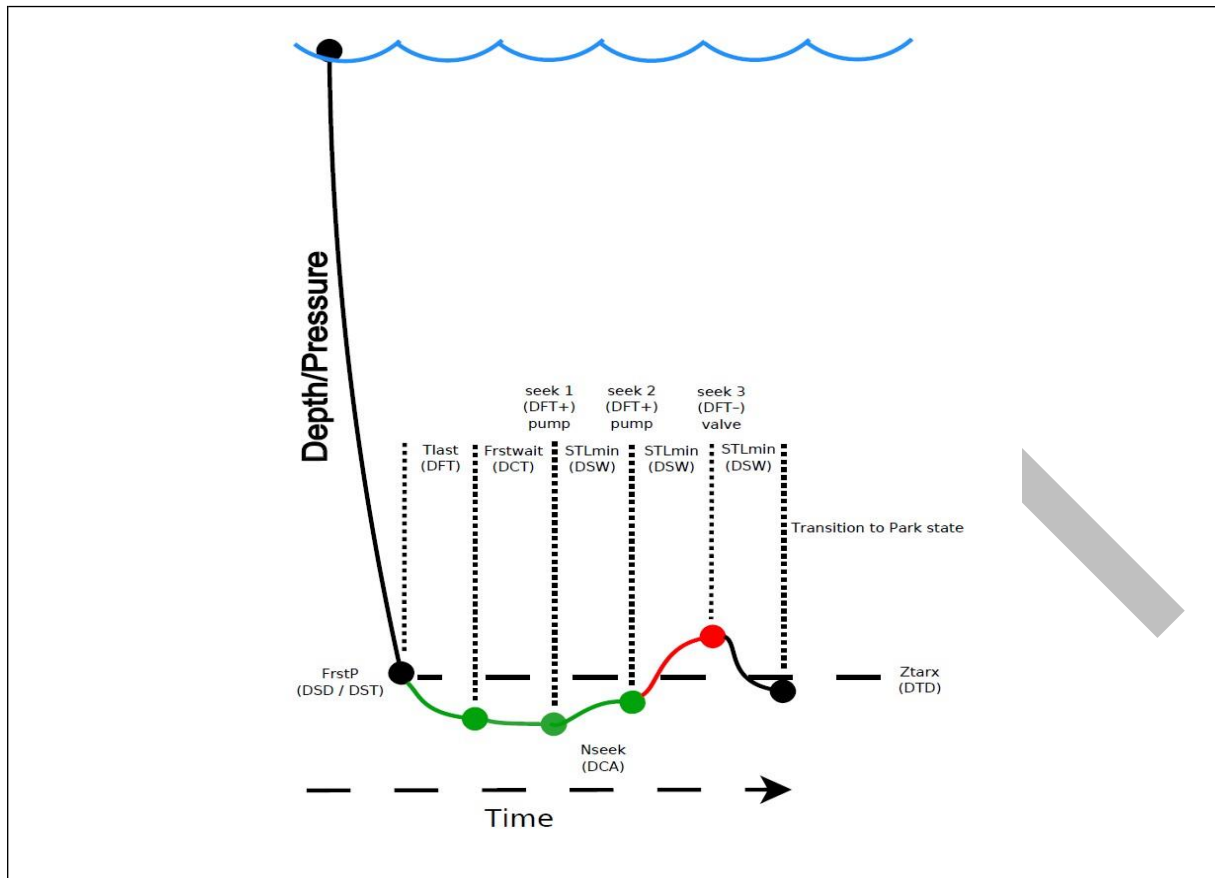

Figure 15 Descend seek sequence
3. **Calibration stage** – the calibration stage is controlled first by the descend calibration mode parameter, DCM. If switched on, DCM 1, two algorithms, "calibration" and "seek" are available and are specified by the descend calibration algorithm parameter, DAL, as 0 or 1 respectively. The calibration algorithm performs self-adjustment procedures during initial profile cycles to determine its system dynamics and proper operation to achieve efficient, consistently accurate mission depths. Once the cal procedure is complete, the float begins its configured mission operations and can receive remote commands for control. The seek algorithm calculates the current depth and adjusts the system based on the calculation and the configuration parameter settings. An example of the seek algorithm is shown in Figure 15.
As shown in Figure 15, the float starts on the Descend state sampling pressure until it reaches the descend start depth (DSD) parameter value. Note, typically the descend start depth and the descend target depth (DTD) parameters are set to the same value. The float then turns on its oil pump for descend fall timeout (DFT) seconds. DFT is the initial configured pump time to reach the target depth. After completing this initial pumping, the float settles at its equilibrium state by waiting for descend calibration timeout (DCT) seconds.